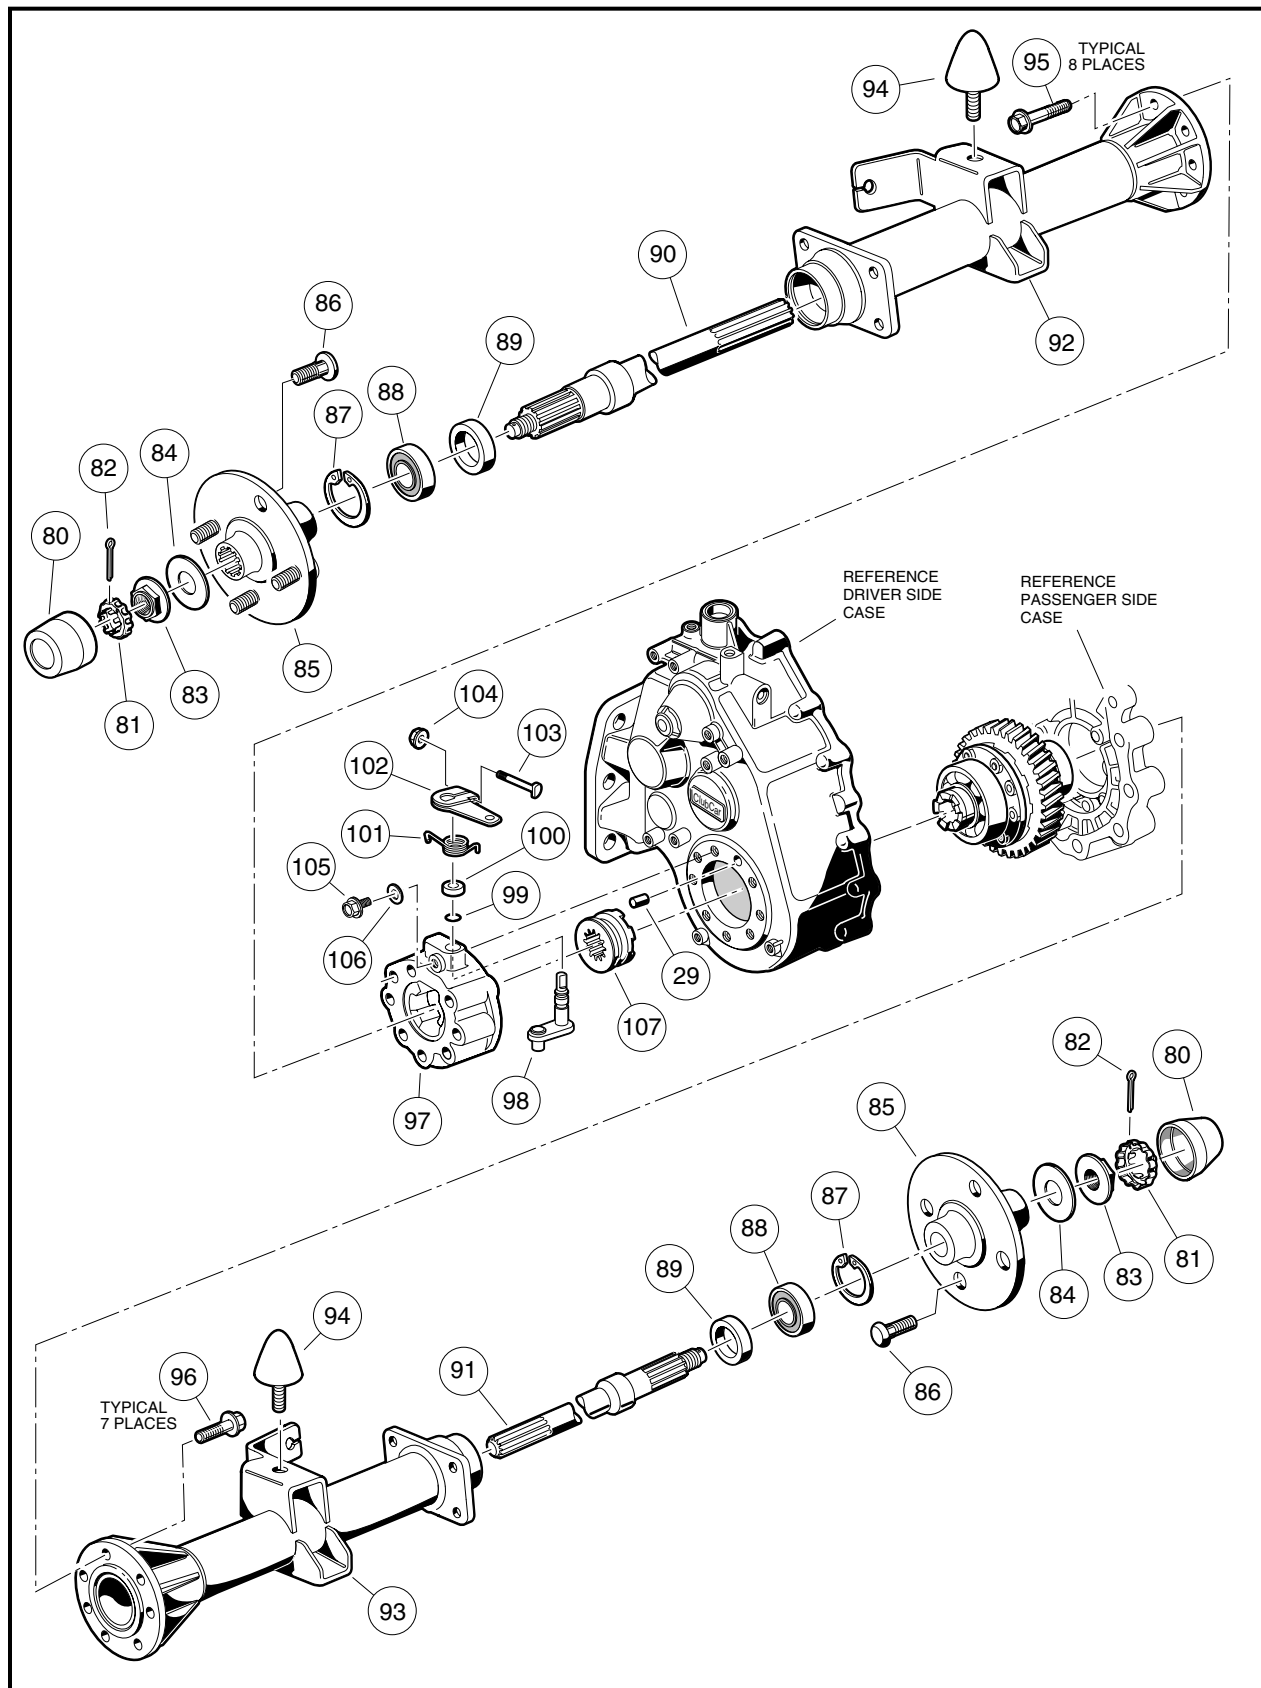

Figure 16a-9 Differential Gear Case/Axle Tubes
- 5.7. Install the rubber boot (26) onto the large washer (23) (**Figure 16a-6, Page 16a-6**).